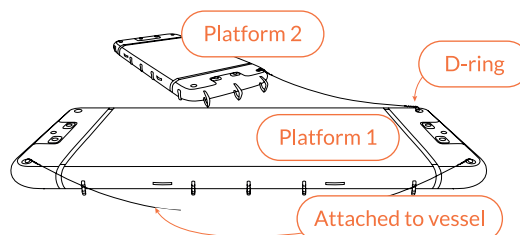

Fig 61 – Platforms secured to each other via a D-rings
4. Using a Dock line, secure the second Platform to the first Platform using the D-rings on each (Fig 61). This should be done using a bowline or round turn and two half hitches.